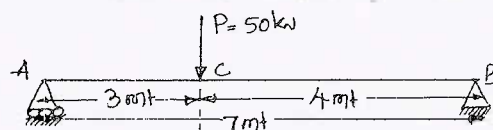

Fig.Q4(a)
- 4 a. Find the deflection under the concentrated load for beam shown in Fig.Q4(a). Using strain energy method. Take $E = 2 \times 10^8 \text{ kN/m}^2$, $I = 14 \times 10^{-6} \text{ m}^4$.